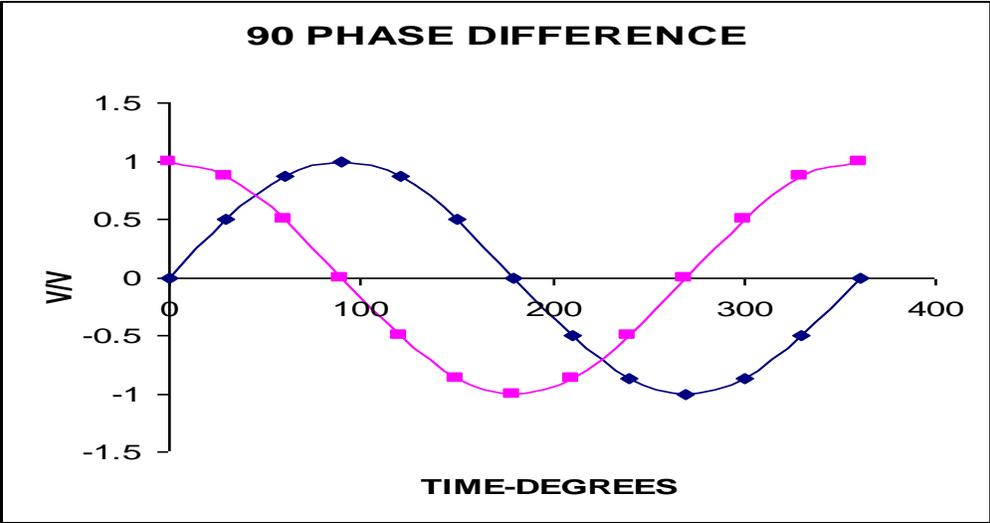

Fig 10: 90° phase difference
If the two (2) wave-forms reach their zero and maximum values at different times, we say that they are **out- of- phase** with each-other. The extent by which they are out of phase with each-other, is expressed in degrees. The two (2) wave-forms shown in fig 10., are 90° out of phase with each-other. This is measured from two successive zero points (**waveforms sloping in the same direction**) of the two wave-forms.